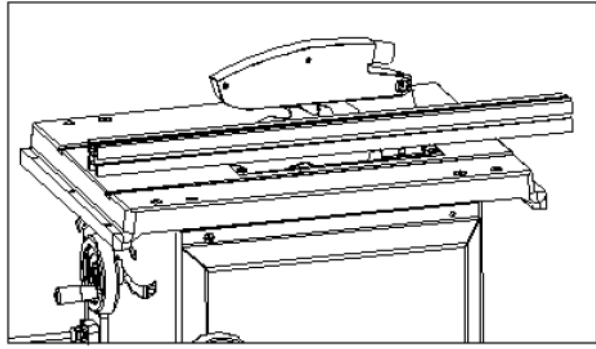

Fig.7
- 4) Verify that the splitting wedge is parallel to the saw blade using the table insert (Fig. 7).